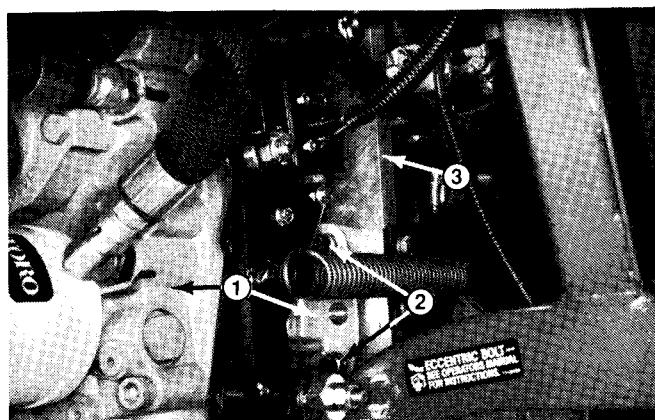

Figure 40
8. Support the transmission to prevent it from falling while carefully removing four (4) capscrews and lock-nuts retaining transmission to support plate. Carefully pull transmission off of support plate and lower it out of the machine (Fig. 40).